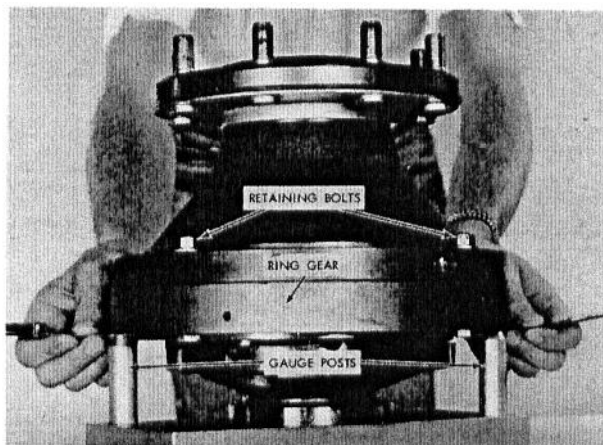

Fig. 38 - Measuring Gap between Ring Gear and Gauge Post
5. Turn the planetary assembly over and seat the bearing cone in the cup as shown in Fig. 38. Rotate the assembly back and forth to center the bearing.
6. Insert a feeler gauge between each gauge post and the ring gear and measure the gap as shown in Fig. 38. Use the same thickness feeler gauge in both positions.